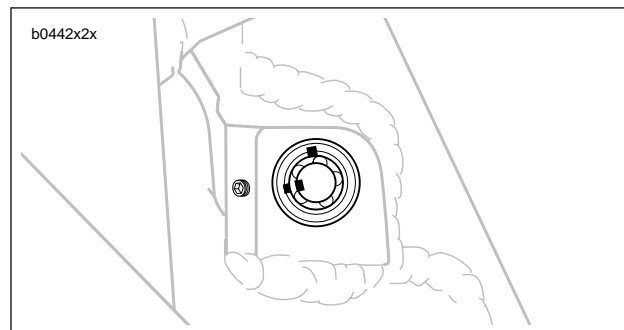

Figure 2-70. Set Screw
6. See Figure 2-70. Remove set screw behind lock.
- c. See Figure 2-70. Lock must be in the unlocked position to install. Insert lock with key openings positioned as shown.